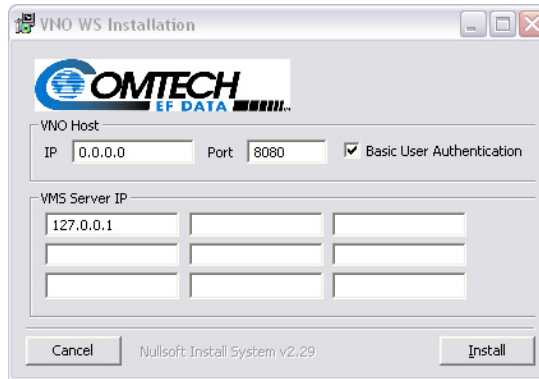

Figure 2-51 VNO-WS Installer
3. As shown in figure 2-51, the Installer will present a dialog requesting VNO configuration parameters.